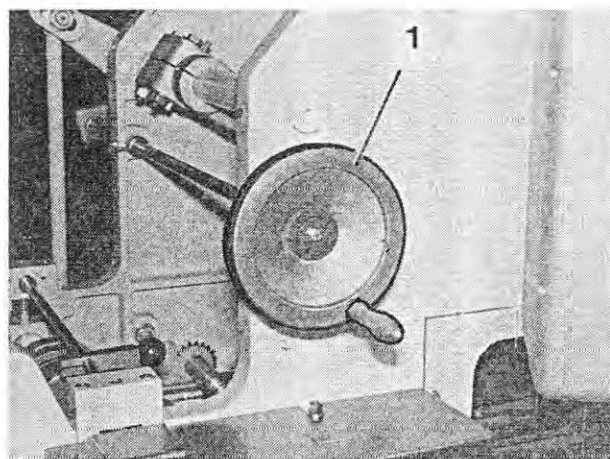

Fig. 124
22. To correct the weight, turn the handwheel (Figure 124/1) appropriately.